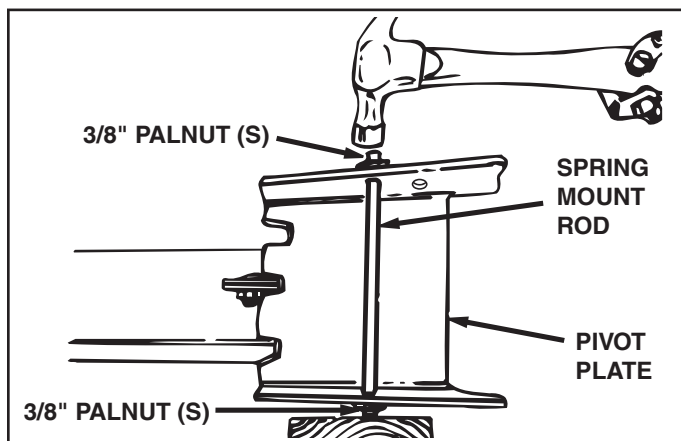

FIGURE 13 (Top View)
STEP 13: (SEE FIGURE 13)
- Using a hammer, assemble a 3/8" palnut (S) onto one end of the spring mount rod. Insert the other end of the spring mount rod through the pivot plate using the rear set of holes. Support the assembled end of the spring mount rod on a block of wood, and assemble the remaining palnut onto the other end of the rod.